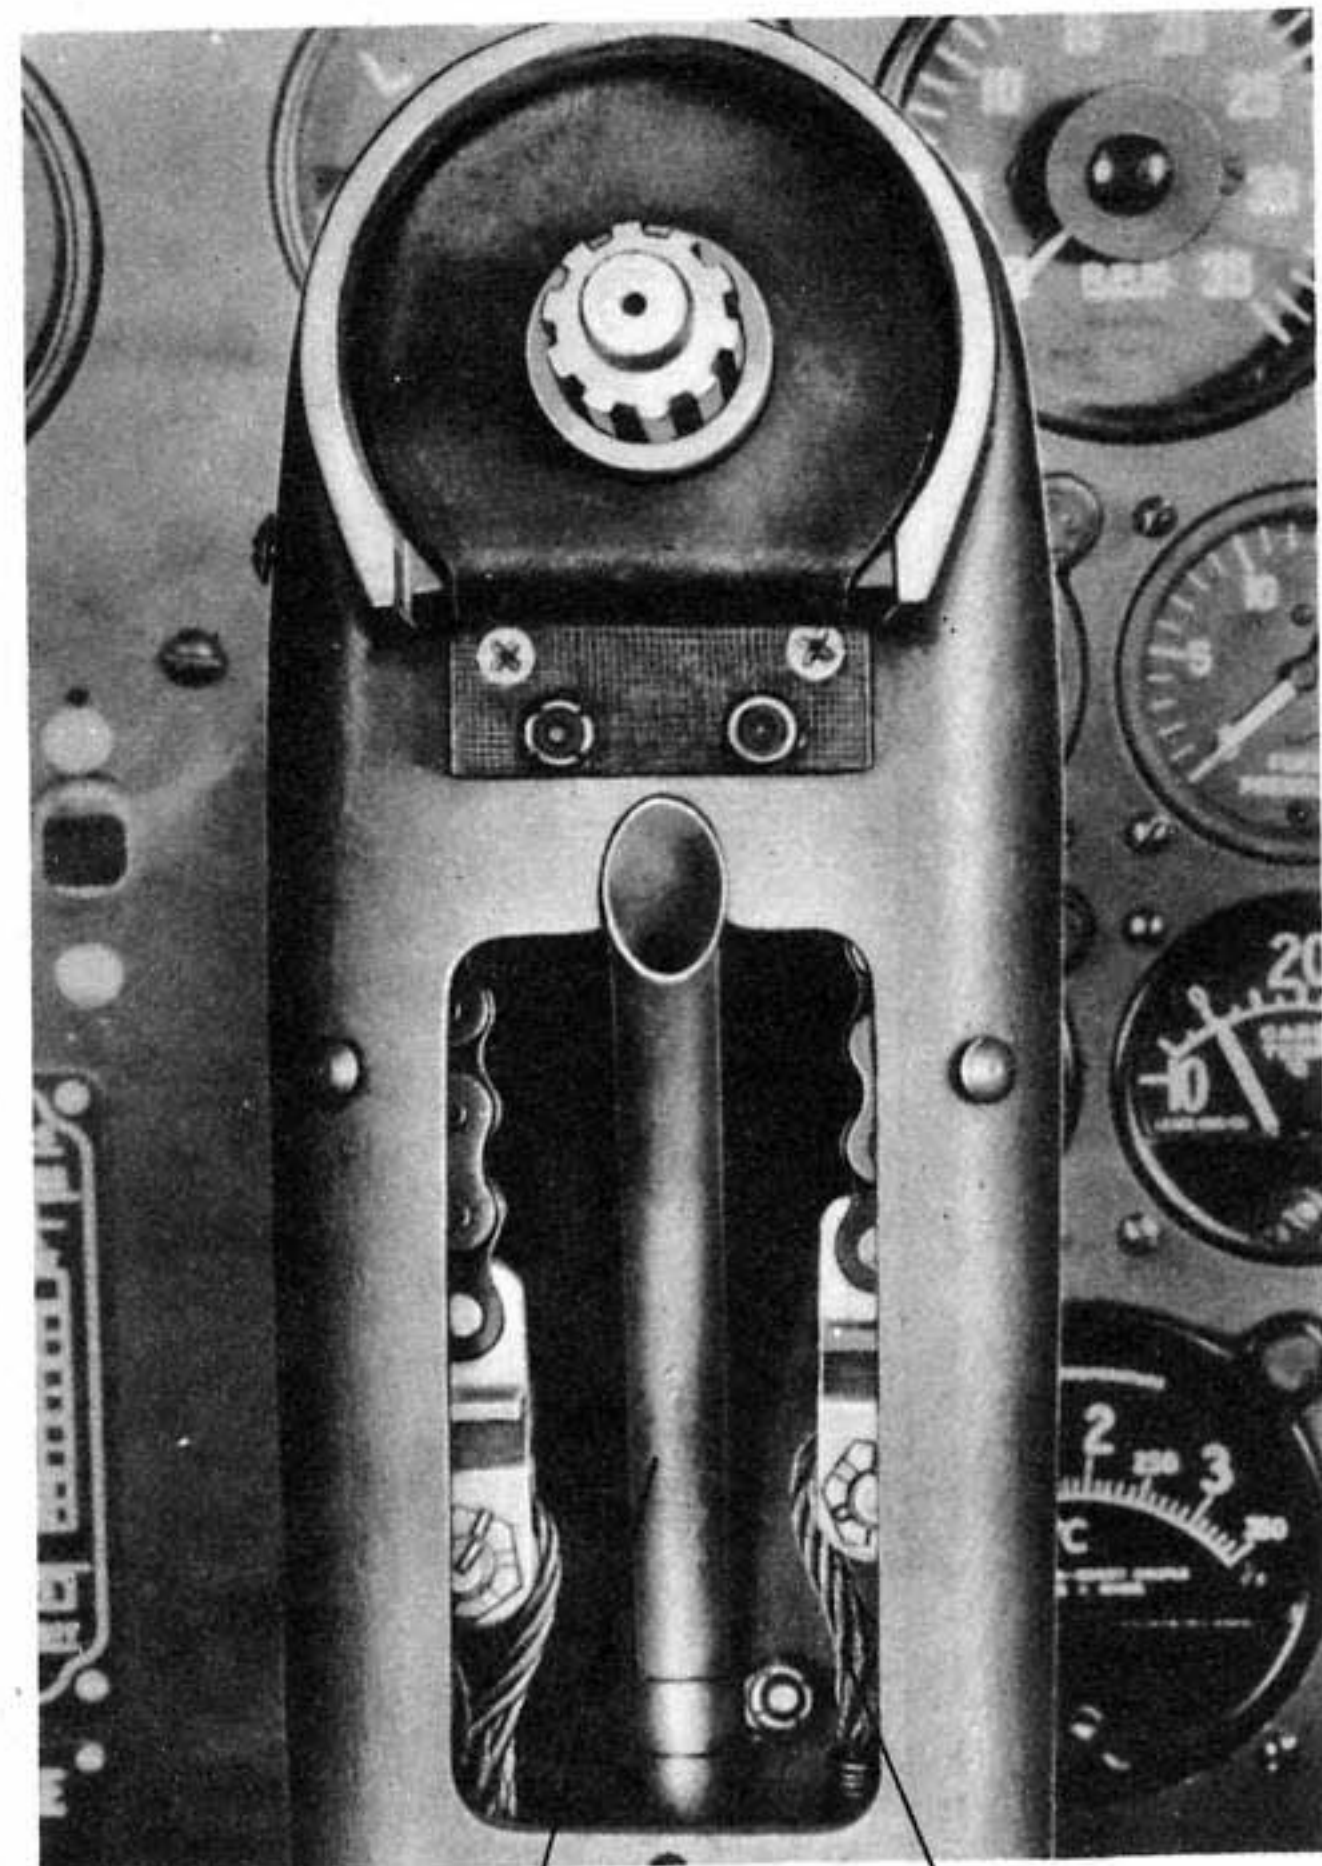

Figure 173 - CONTROL COLUMN - TOP COVER PLATE AND WHEEL REMOVED
1. Remove the cover plate (facing aft) on the control column under the wheel. (See figure 173.) Remove the two electrical wires from the terminals. At the left side of the torque tube unscrew the breeze fitting and pull out the wires.
(d) Remove the cover plate (facing forward) at the top of the column. (See figure 173.)